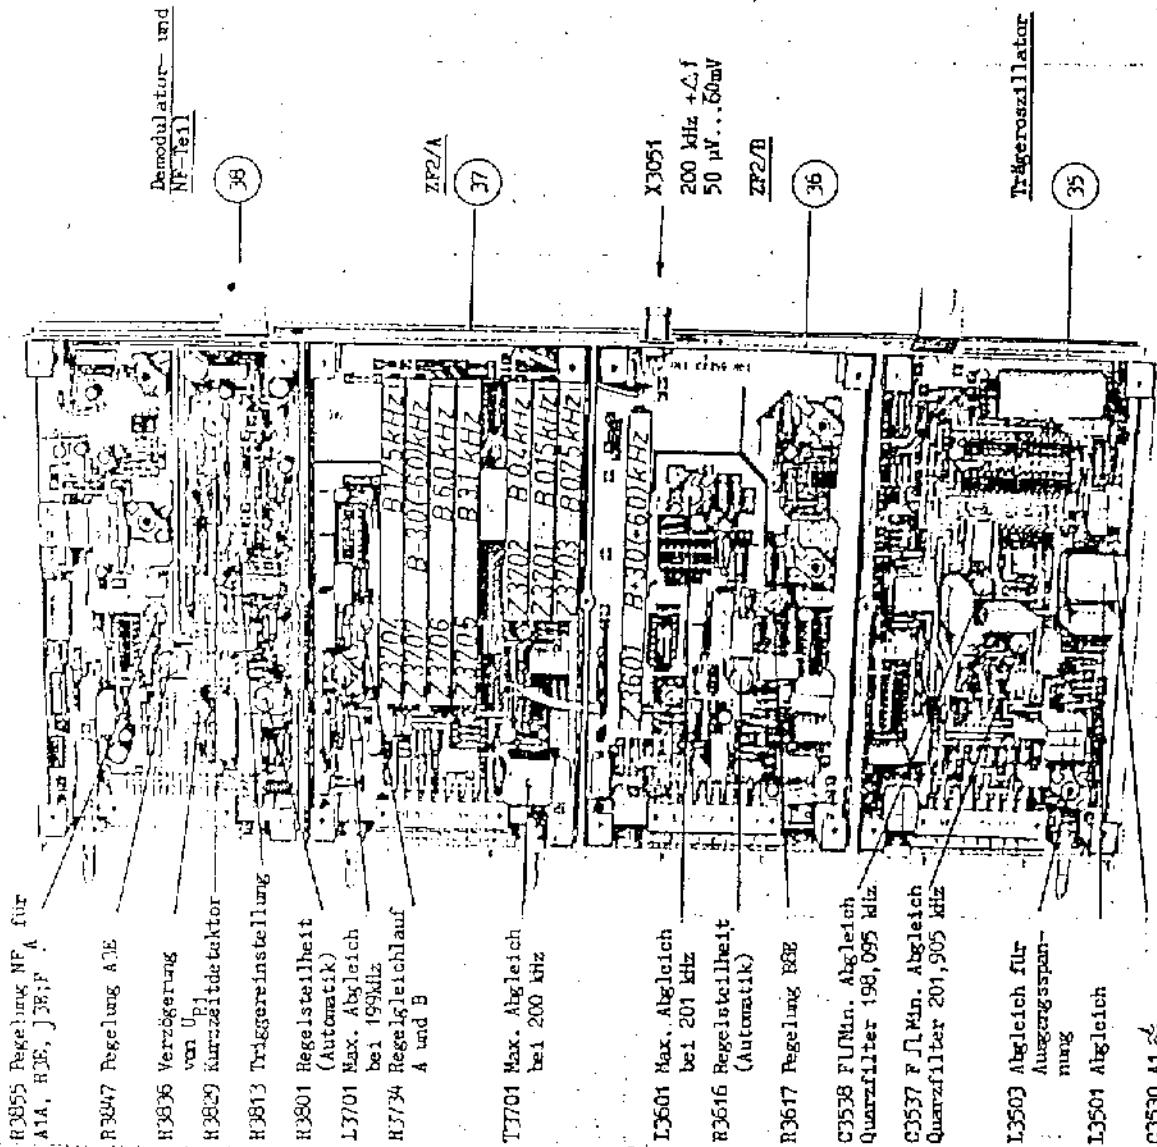

Figure 19
- . Load line output A (25) and line output B (26) at one end — 1 and with R = 600 ohm to avoid interferences
- . Perform level check acc. to figure 19 or 20.